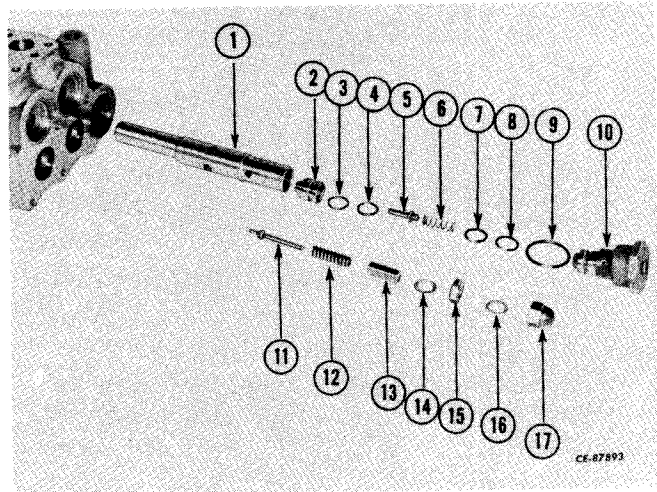
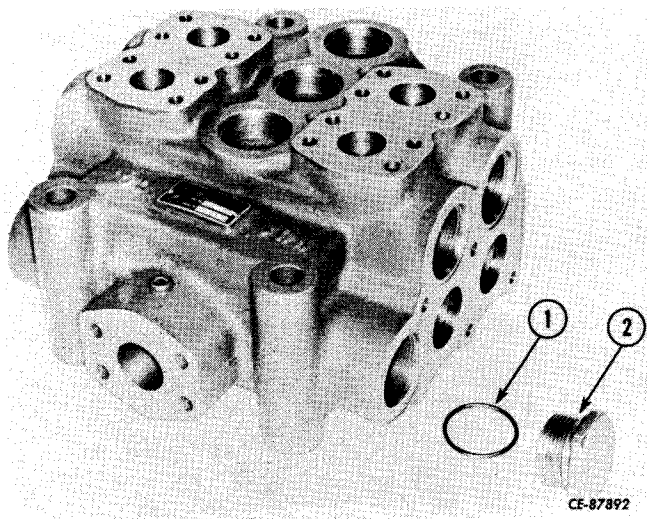

Figure 11-51
Figure 11-50
Remove plug (2, Fig. 11-50) and "O"-ring (1). Discard "O"-ring.
Loosen and remove the acorn nut (17, Fig. 11-51) and washer (16). Remove jam nut (15), washer (14) and screw (13). Slide spring (12)
Install sleeve (1, Fig. 11-51) in valve body bore being sure the hollow end of sleeve is toward relief valve end of bore. Install new "O"-ring (1, Fig. 11-50) on plug (2) and install plug in valve body bore opposite relief valve. Seat sleeve against plug. Install new back-up ring (3, Fig. 11-51) and "O"-ring (4) in groove of poppet (2). Install piston (5) in poppet (2). After lubricating with clean hydraulic fluid, install poppet assembly in sleeve (1). Install spring (6) over piston (5) in recess of poppet (2). Install new back-up ring (8) and "O"-ring (7) in groove in small diameter of plug (10). Install new "O"-ring (9) in groove in large diameter of plug (10). Install plug in valve body. After lubricating with clean hydraulic fluid, be sure spring (6) fits in recess of plug. Tighten plug securely. Install pilot poppet (11) in center bore of plug (10). Install spring (12) on pilot poppet stem. Thread adjusting screw (13) into plug bore until it begins to compress spring (12). Place copper washer (14) over adjusting screw (13) and install jam nut (15). Do not tighten jam nut.